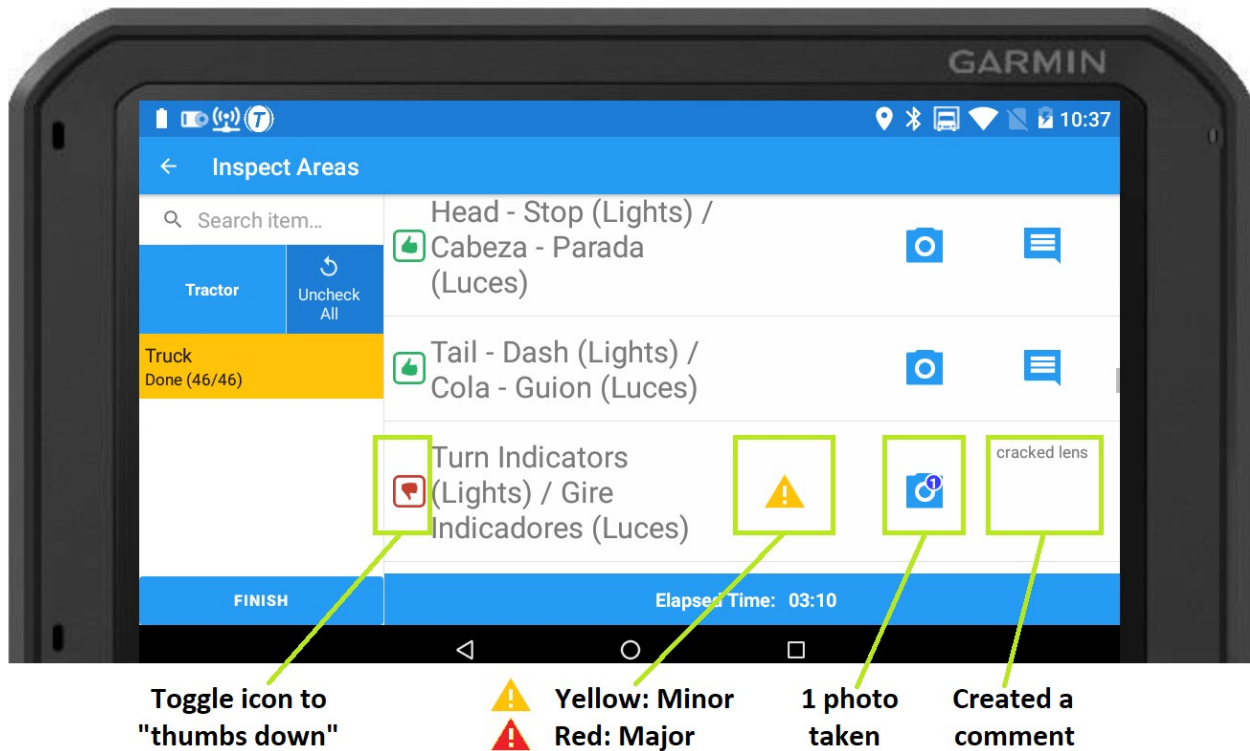

Fig. 3.8: Example of specifying a DVIR defect.
1. Go outside of the vehicle and perform the physical circle check inspecting each component of the tractor/truck and trailer (if a trailer is hooked up). Optional: Bring the Garmin/TomTom/tablet with you during the physical circle check to change the pass status for items on the list (if items don't pass), to make notes about specific items and/or take photos of specific items. To open one of the current DVIR reports, tap the 3 vertical dots to the right of "In progress" and tap "View". See Fig 3.8 for an example of an item with noted issues.
4. If there are any issues to be noted for specific items, use the search tool to find the item(s) or scroll down the DVIR list to find the item(s). Tap on the green "thumbs up" icon to toggle to a red "thumbs down" icon if necessary. Tap once again to toggle icon to N/A and tap again to return to green "thumbs up" icon. Continue toggling to select the appropriate icon. See Fig. 3.8 for example. Tap the severity level (triangle with ! icon) to toggle between yellow (minor) and red (major). Note: Major indicates the vehicle requires repair before it can be driven.
5. Optional: Tap the camera icon for an item to take a photo of the item to document its condition for the purpose of showing a defect. After taking photo, tap the checkmark icon to save photo (tap the X icon to discard a photo). See Fig. 3.8 for example of how a photo is indicated in the list.
6. Optional: Tap the comment icon to enter a comment for a specific item. After entering comment, tap back button in lower left and finally the OK button to save the comment. See Fig. 3.8 for example.